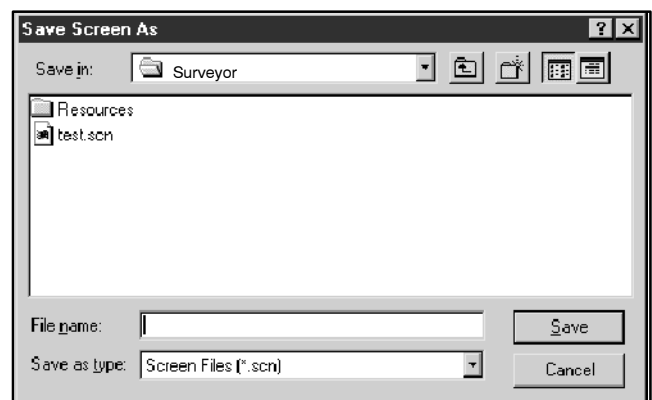

Figure 2-8 Save Screen
2. A dialogue box appears. See Figure 2-8. Type in a filename for the screen file. Choose a unique name that identifies the file for future reference. Screen files use the extension *.scn*. Do not type the filename extension; the program appends the extension to the filename automatically.